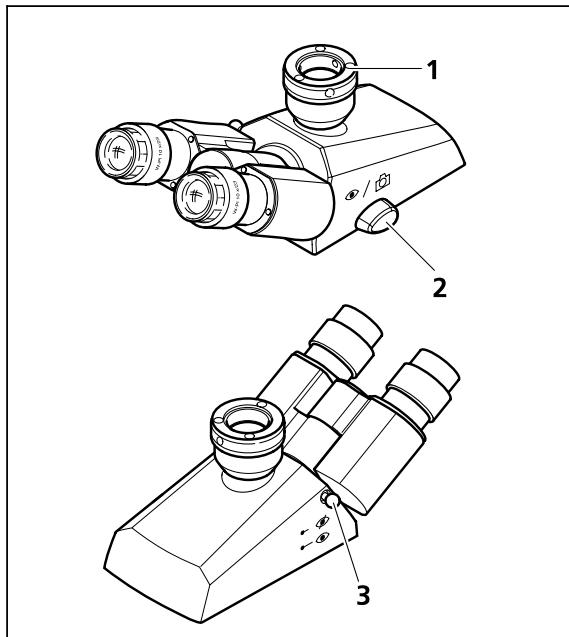

Fig. 4-32 Binocular photo tube
The photo port (Fig. 4-32/1) of the binocular tube may serve for mounting a reflex camera, a microscope camera or a video camera with the aid of appropriate adapters. Using the shift knob, the light can be directed to the eyepieces or to the mounted camera.
- Shift knob (Fig. 4-32/2) in forward position (eye symbol):
- Shift knob (Fig. 4-32/2) in backward position (camera symbol):
- Push rod (Fig. 4-32/3) pushed in:
- Push rod (Fig. 4-32/3) pulled out: